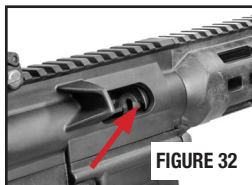

FIGURE 32
- Look into the chamber through ejection port to ensure that the chamber is empty (FIGURE 32).